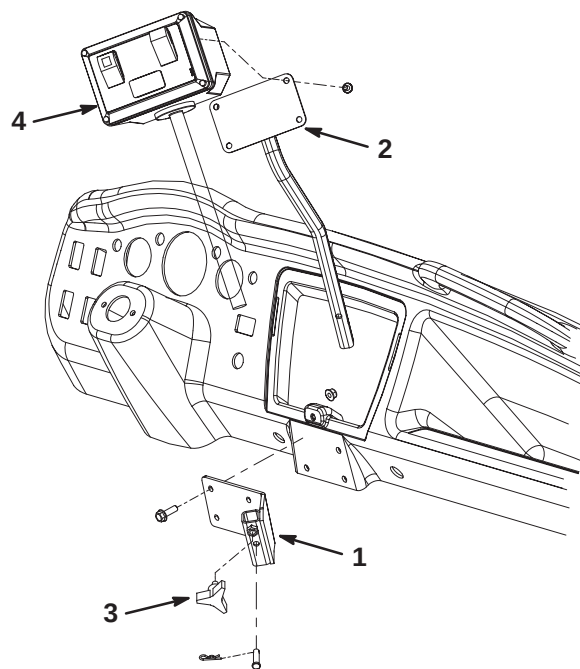

Figure 9
1. Mount the receiver assembly to the Workman vehicle dash with (4) 5/16-18 x 1 in. capscrews and nuts. Position the components as shown in figure 9.
2. Mount the controller box to the mounting assembly with (4) screws (Fig. 9).
3. Insert the mounting assembly tube into the receiver and secure with a clevis pin and cotter pin (Fig. 9).
4. Thread the knob into the receiver to tighten the tube (Fig. 9).